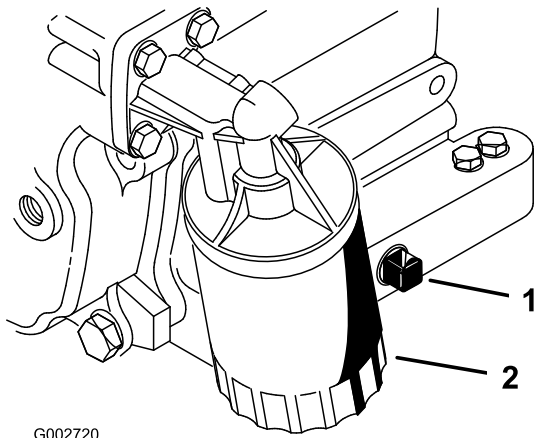

Figure 27
2. Remove the drain plug (Figure 27) and let the oil flow into a drain pan. When the oil stops, install the drain plug.
3. Remove the oil filter (Figure 27).